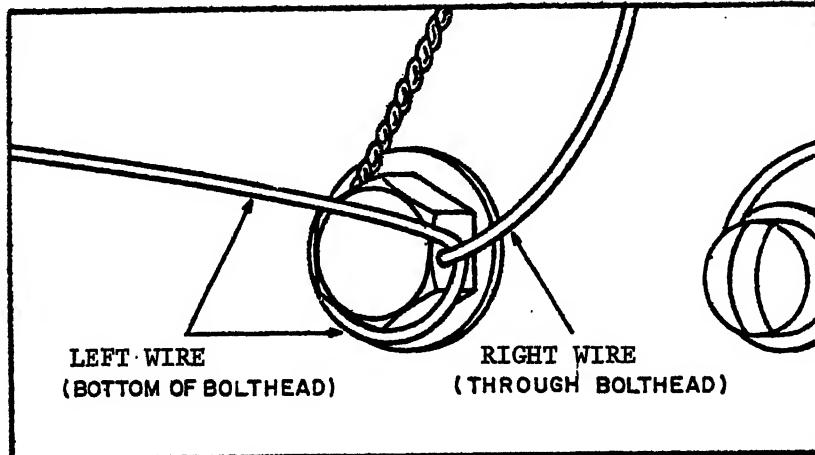

FIGURE 23
f. Pulling the wire tight with the duckbills, wrap the LEFT wire around the bottom of the Bolthead and behind the RIGHT wire on the right side of the Bolthead; give one COUNTERCLOCKWISE twist. See figure 23.
- i. Pulling the wire tight with the duckbills, wrap the LEFT wire around the bottom of the bolthead and behind the RIGHT wire on the right side of the bolthead give one COUNTER-CLOCKWISE twist. See figure 23.